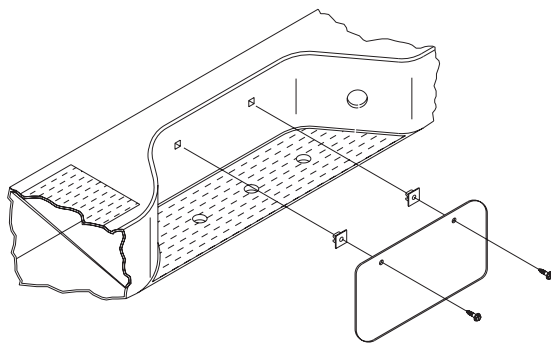

FIGURE 3
- STEP 4: Using square plastic grommets and sheet metal screws, install license plate. See figure 3.